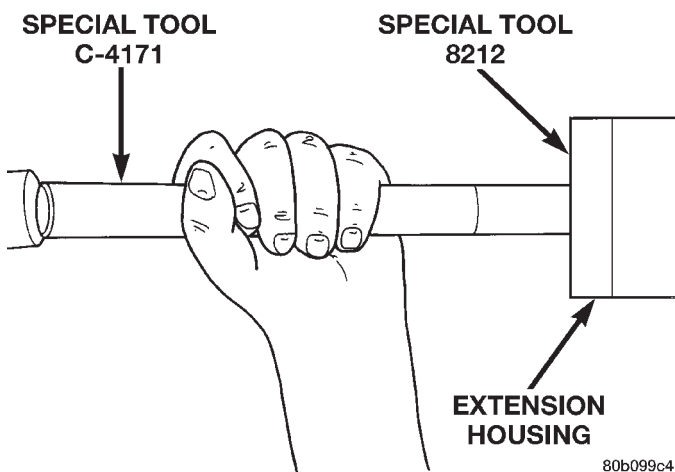

Fig. 13 Install Extension Housing Seal
- (1) Clean seal bore of extension housing of any residual sealer material from original seal.
- (2) Using Tool Handle C-4171 and Seal Installer 8212, install new extension housing seal so that the seal is located 0 ± 0.5 mm (0 ± 0.02 in.) to the face of the extension housing (Fig. 13).